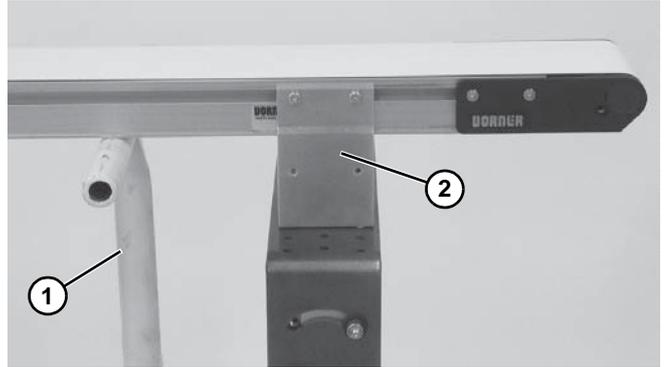

Figure 33
7. Place temporary support stands (Figure 33, item 1) at both ends of the conveyor.
8. Remove mounting brackets (Figure 33, item 2) from one side of conveyor. (Reverse steps 3 & 4 of “Mounting Brackets” on page 12.)